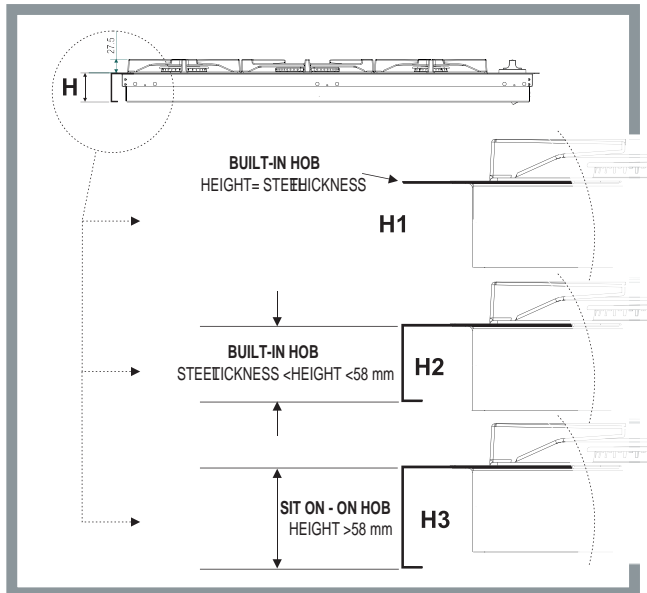
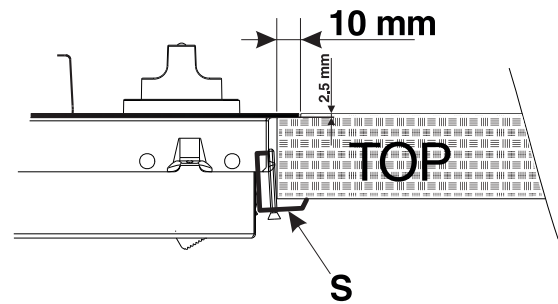
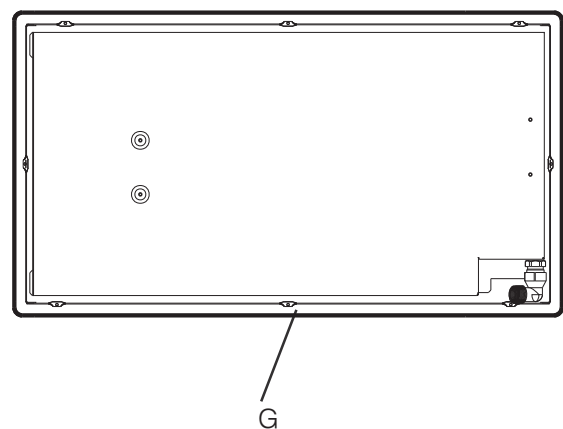
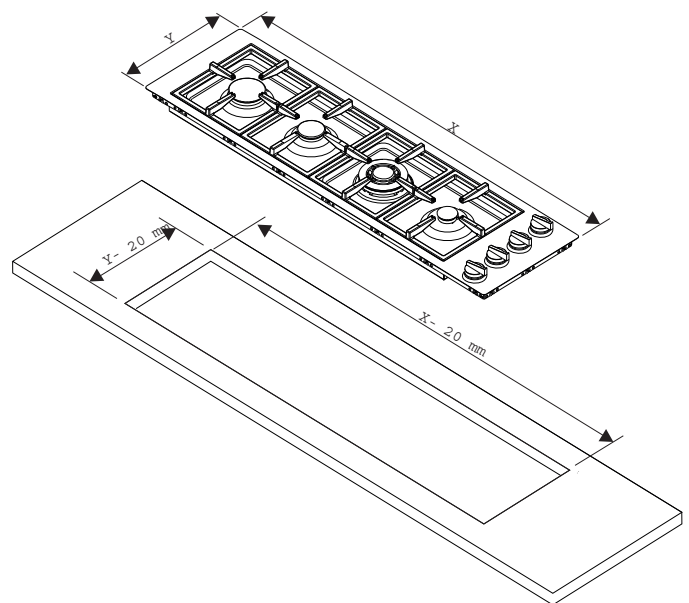

Fig. 2
Fig. 3a
Fig. 3b
Fig. 3c
- 1- Built-in hobs to be slotted in (Class 3 - see figure 2, detail H1). In this case it is necessary to make a hole in the worktop whose measurements match those of the hob. The measurement at the side should be reduced by 2 cm so as to ensure that 1 cm of the perimeter of the hob overlaps with and rests on top of the supporting surface. To slot the hob flush with the worktop, the cut-out on this supporting surface must be lowered (see figure 3a), so that both the edge of the hob and the seal under it can be positioned there. Before fitting the hob to the worktop, position the seal G provided along the perimeter of the hob, as illustrated in figure 3b. Brackets for fixing hobs to the cabinet have been provided, and these should be fitted as shown in detail S (fig. 3a).
- 2- Built-in hobs (Class 3) with edges lower than 58 mm (see figure 2, detail H2)(fig 3c). To install this type of hob, a hole large enough to accommodate the whole lower casing of the appliance must be made on the worktop intended to be under the hob. Remember to leave a gap of at least 1 cm between the lower casing and the worktop around the whole perimeter of the appliance (the underside of the casing can, however, touch the surface below it). To fit the appliances, follow the instructions given above in point 1 or use any supplementary instruction leaflet that is provided in special cases.
- 3- Sit-on hobs (Class 1) with edges higher than 58 mm (see figure 2, detail H3). In this case, the lower